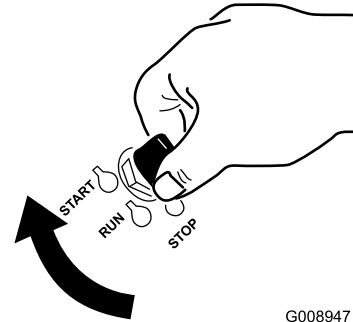

Figure 17
1. Turn the ignition key to the **START** position (Figure 17).